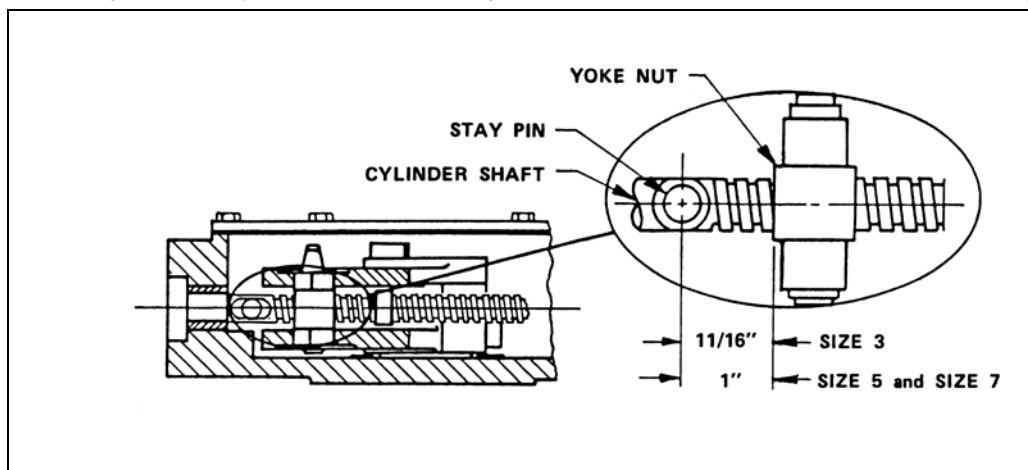

Figure 2 – Detailed View of Yoke Nut and Cylinder Shaft
3. Position the yoke so it points toward the cylinder end of the actuator as shown in Figure 2.
5. Install the yoke, yoke nut, upper yoke guide and lower yoke guide. Position the yoke so it points toward the cylinder end of the actuator as shown in Figure 2.
8. Screw the cylinder into the yoke nut and stop nut. Figure 2 shows the correct distance from the stay pin hole to the yoke nut.